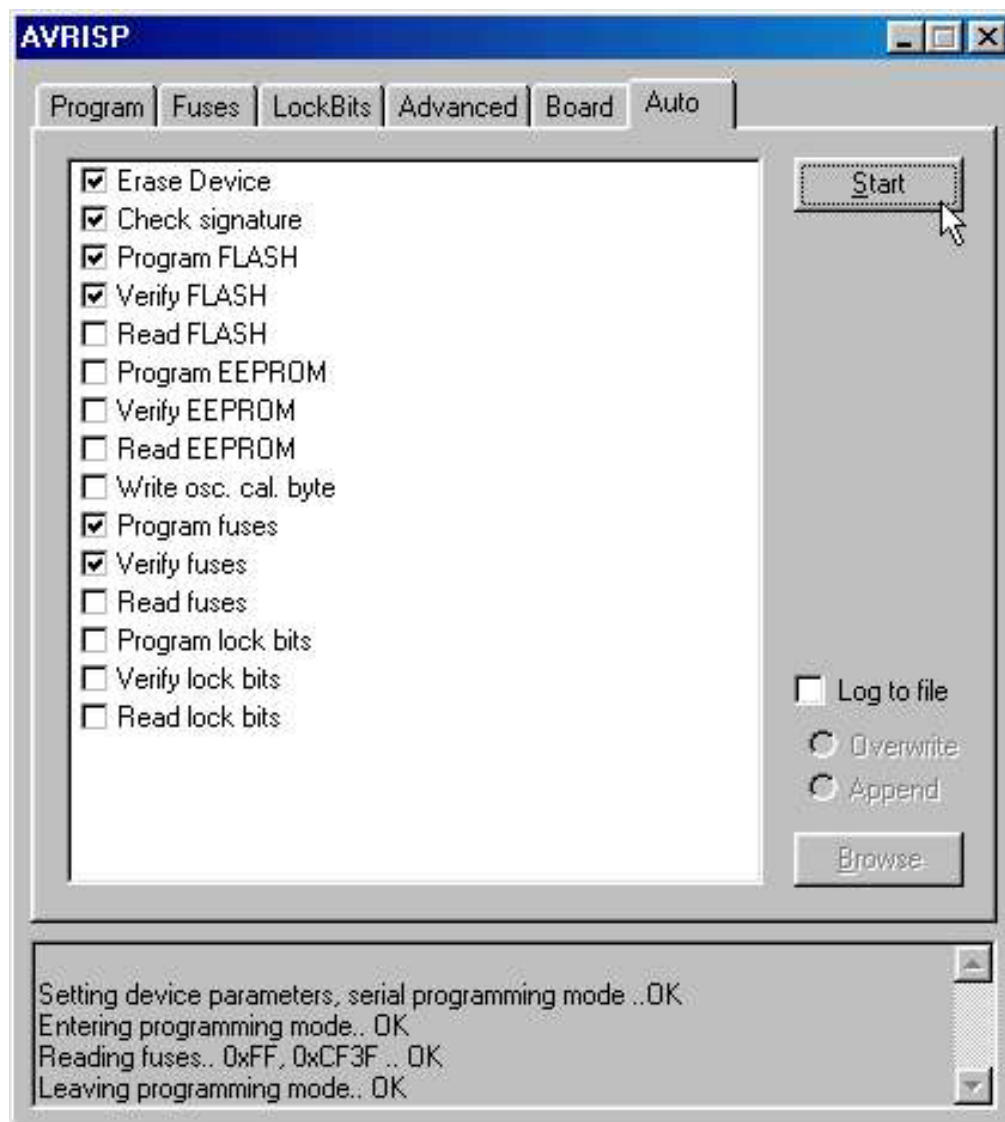

FIGURE B-13: AVR ISP CONFIGURATION USING AVR STUDIO
- D7) Configure the programmer to check signature, erase device and reprogram with verify Flash memory and configuration bits, like indicated in figure B-13.
- D8) Perform the programming sequence by pressing button "Start" indicated in figure B-13.